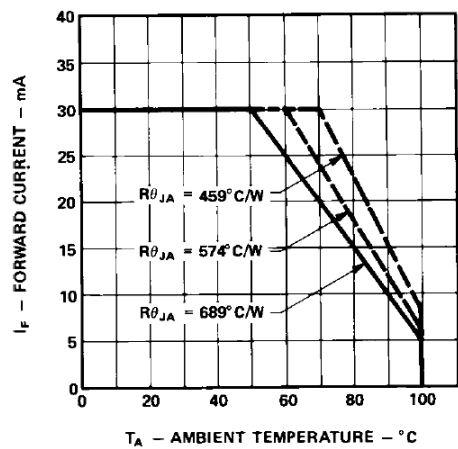

Figure 5. Maximum forward dc current vs. ambient temperature. Derating based on $T_J \text{ MAX.} = 110^\circ\text{C}$.
3. Derate linearly as shown in Figure 5.